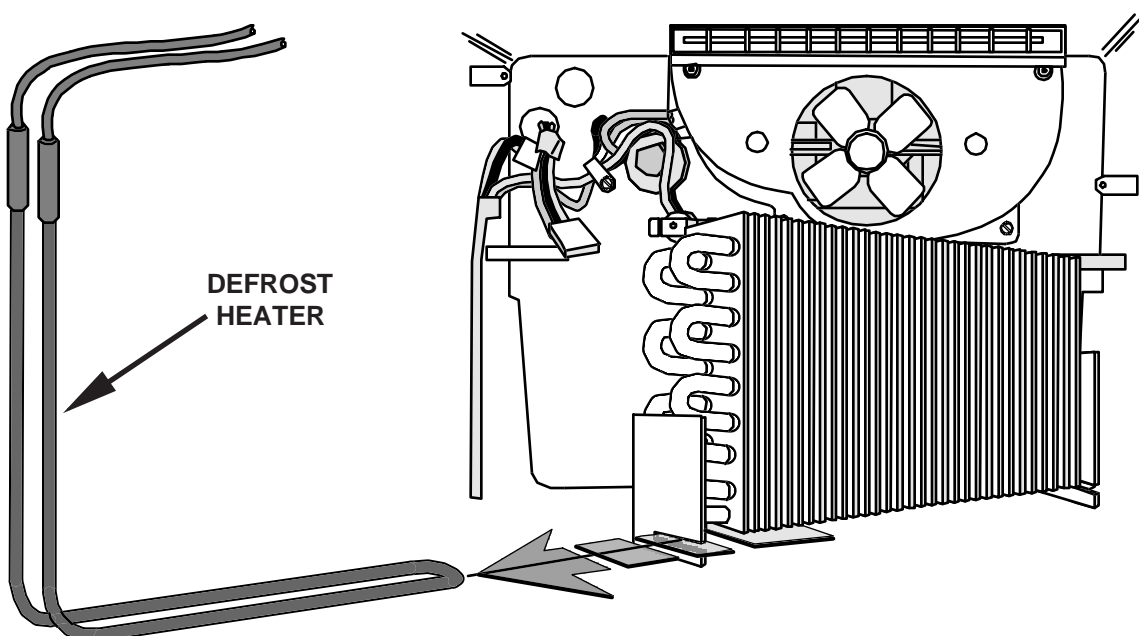

Fig. 34
3. Gently slide the defrost heater by pulling it to the left and out of the retaining slots on the evaporator. (Fig. 34)